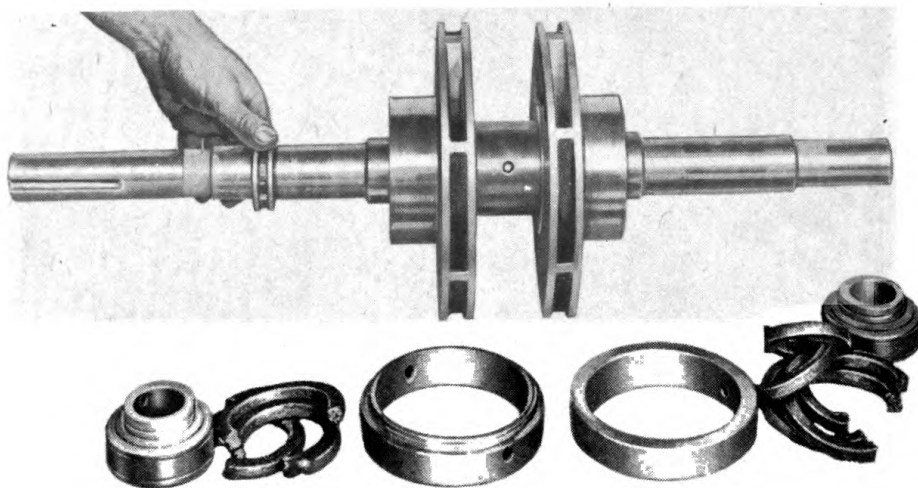

Figure 35C—Removing Lantern Ring
a. The wearing plates or rings can be slipped off of the impeller hubs after which the ball bearing should be removed. Loosen set-screws (figure 35D) and the ball bearing will slip off the shaft. Slip off lantern ring (figure 35C) after which remove the shaft sleeve on either side of the impeller. These sleeves are threaded with both right